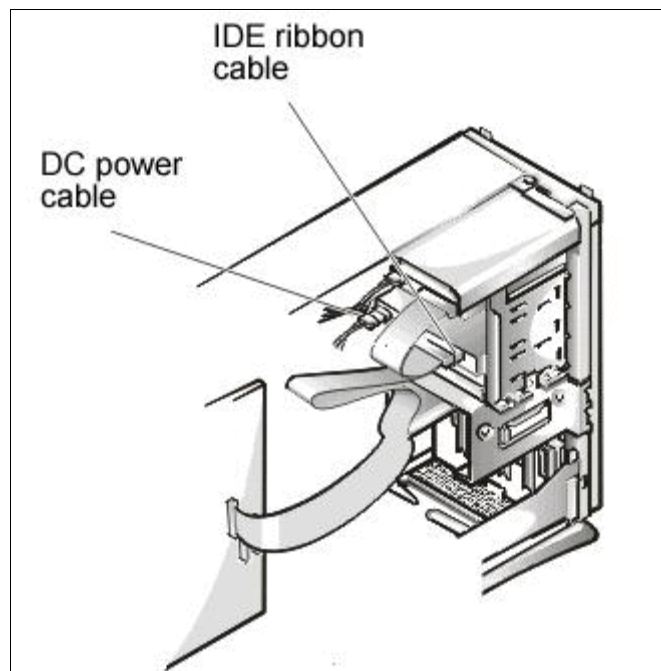

Figure 5
9. From inside the chassis, connect an unused power connector to the drive (figure 5).
10. If the existing 3.5 inch floppy drive IDE ribbon cable has a 5.25 inch floppy connector, attach the connector to the newly installed drive. If not, connect an IDE cable from the 5.25 inch floppy drive to the IDE interface card (figure 5).